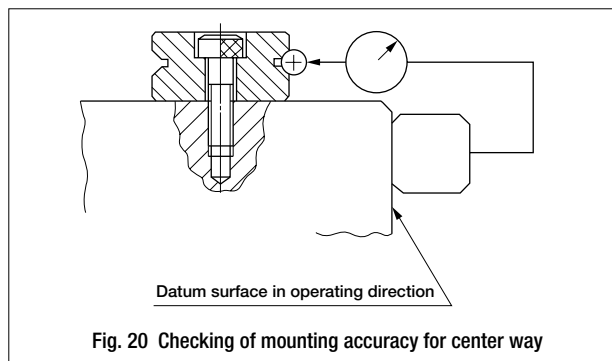

Fig. 20 Checking of mounting accuracy for center way
① Preparation for mounting
② Cleaning of mounting surfaces on table and bed
③ Mounting of center way (Fig. 20)